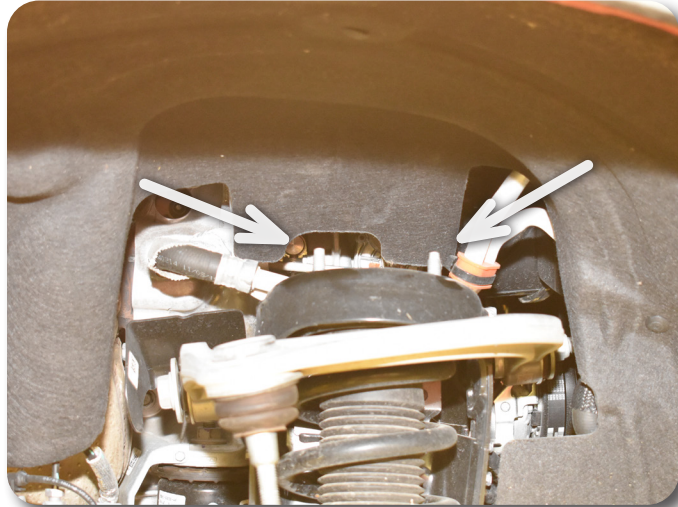

Figure 9
12. Remove the three upper strut mounting nuts at the frame. Figure 9 DO NOT remove the center strut rod nut.